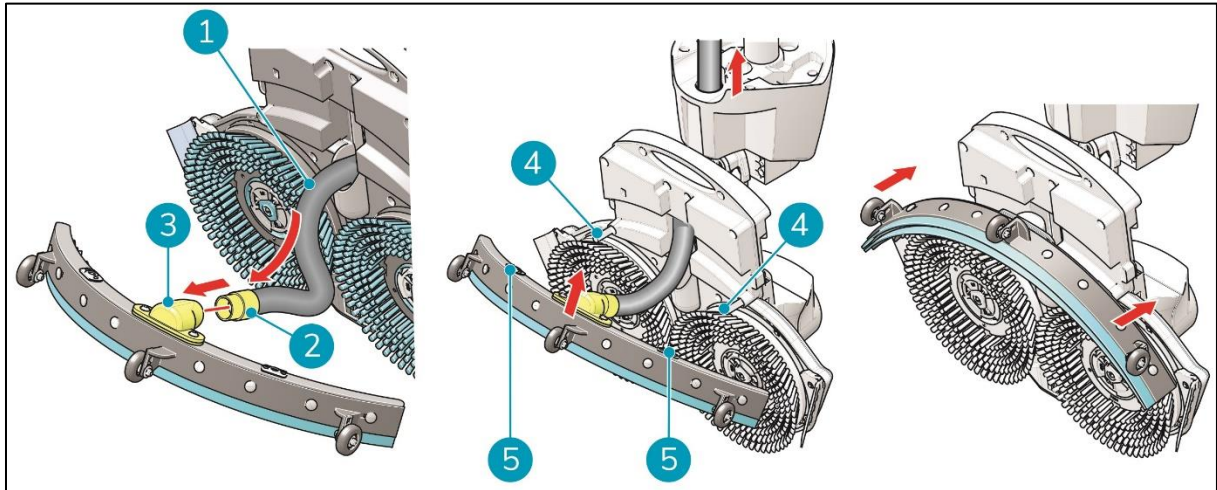

Figure 25
1. Take the vacuum hose (Figure 25, pos 1).
2. Insert the hose connector (Figure 25, pos 2) in the squeegee (Figure 25, pos 3).
3. Twist the hose connector 1/4 turn for a firm fit (Figure 25, pos 2).
6. Align the pins on the scrub deck (Figure 25, pos 4) with the holes on the squeegee (Figure 25, pos 5).